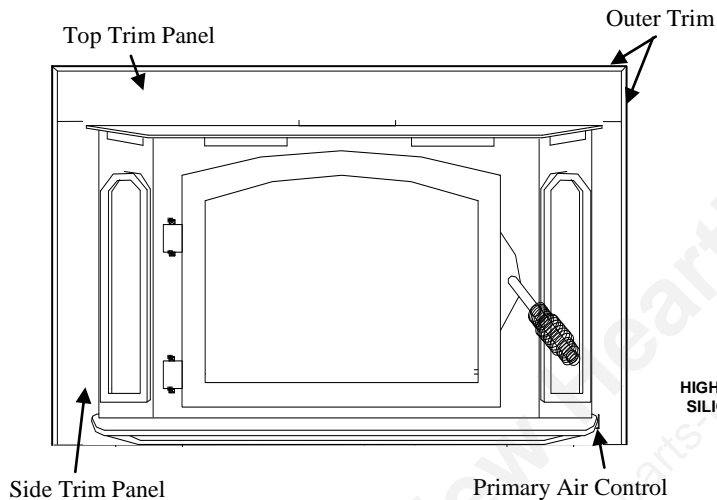

FIGURE 4
9. Obtain brass trim kit provided with insert kit and slip over top and sides of trim panels. Top ends of brass may need to be trimmed to fit (See Figure 4, Page 10).
Primary Air Control: The primary air intake draft control is located at right bottom side of hearth. It is operated by moving handle **out** to open (to allow air into firebox) or **in**, to control or close off air into firebox. (See Figure 4).